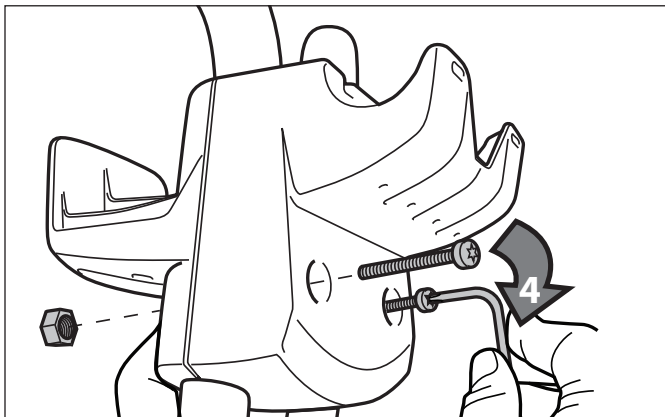

Figure 4. Secure the Hooks
- Secure the power supply hook using two (2) bolts and two (2) nuts and tighten with Torx wrench. Refer to Figure 4.